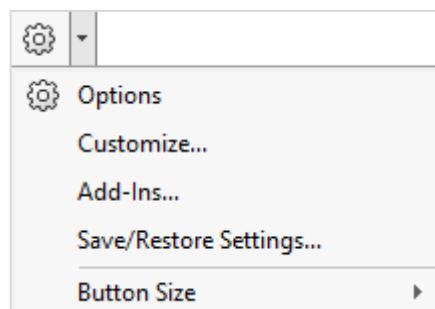

Fig. 1.7 – Options
**Options:** In this section, you can modify SolidWorks settings, including both system properties and document properties. The expanded menu contains options for "settings" and managing add-ins (fig. 1.7).